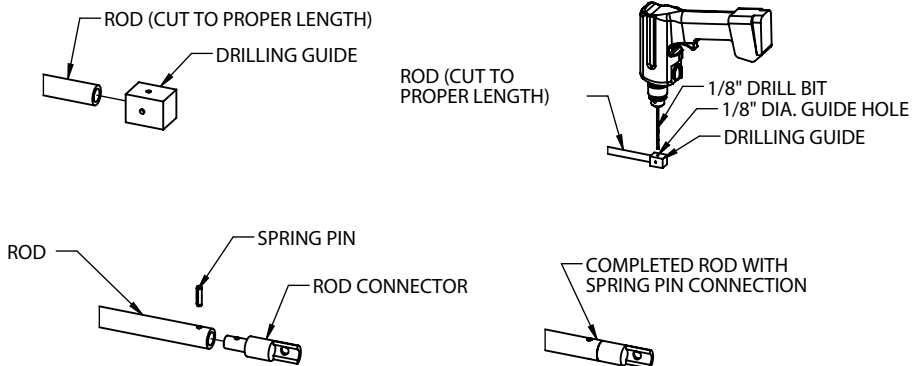

FIGURE 2-3
- C. Slide the rod into the drilling guide (see Figure 2-3), making sure the rod is fully inserted in the guide.